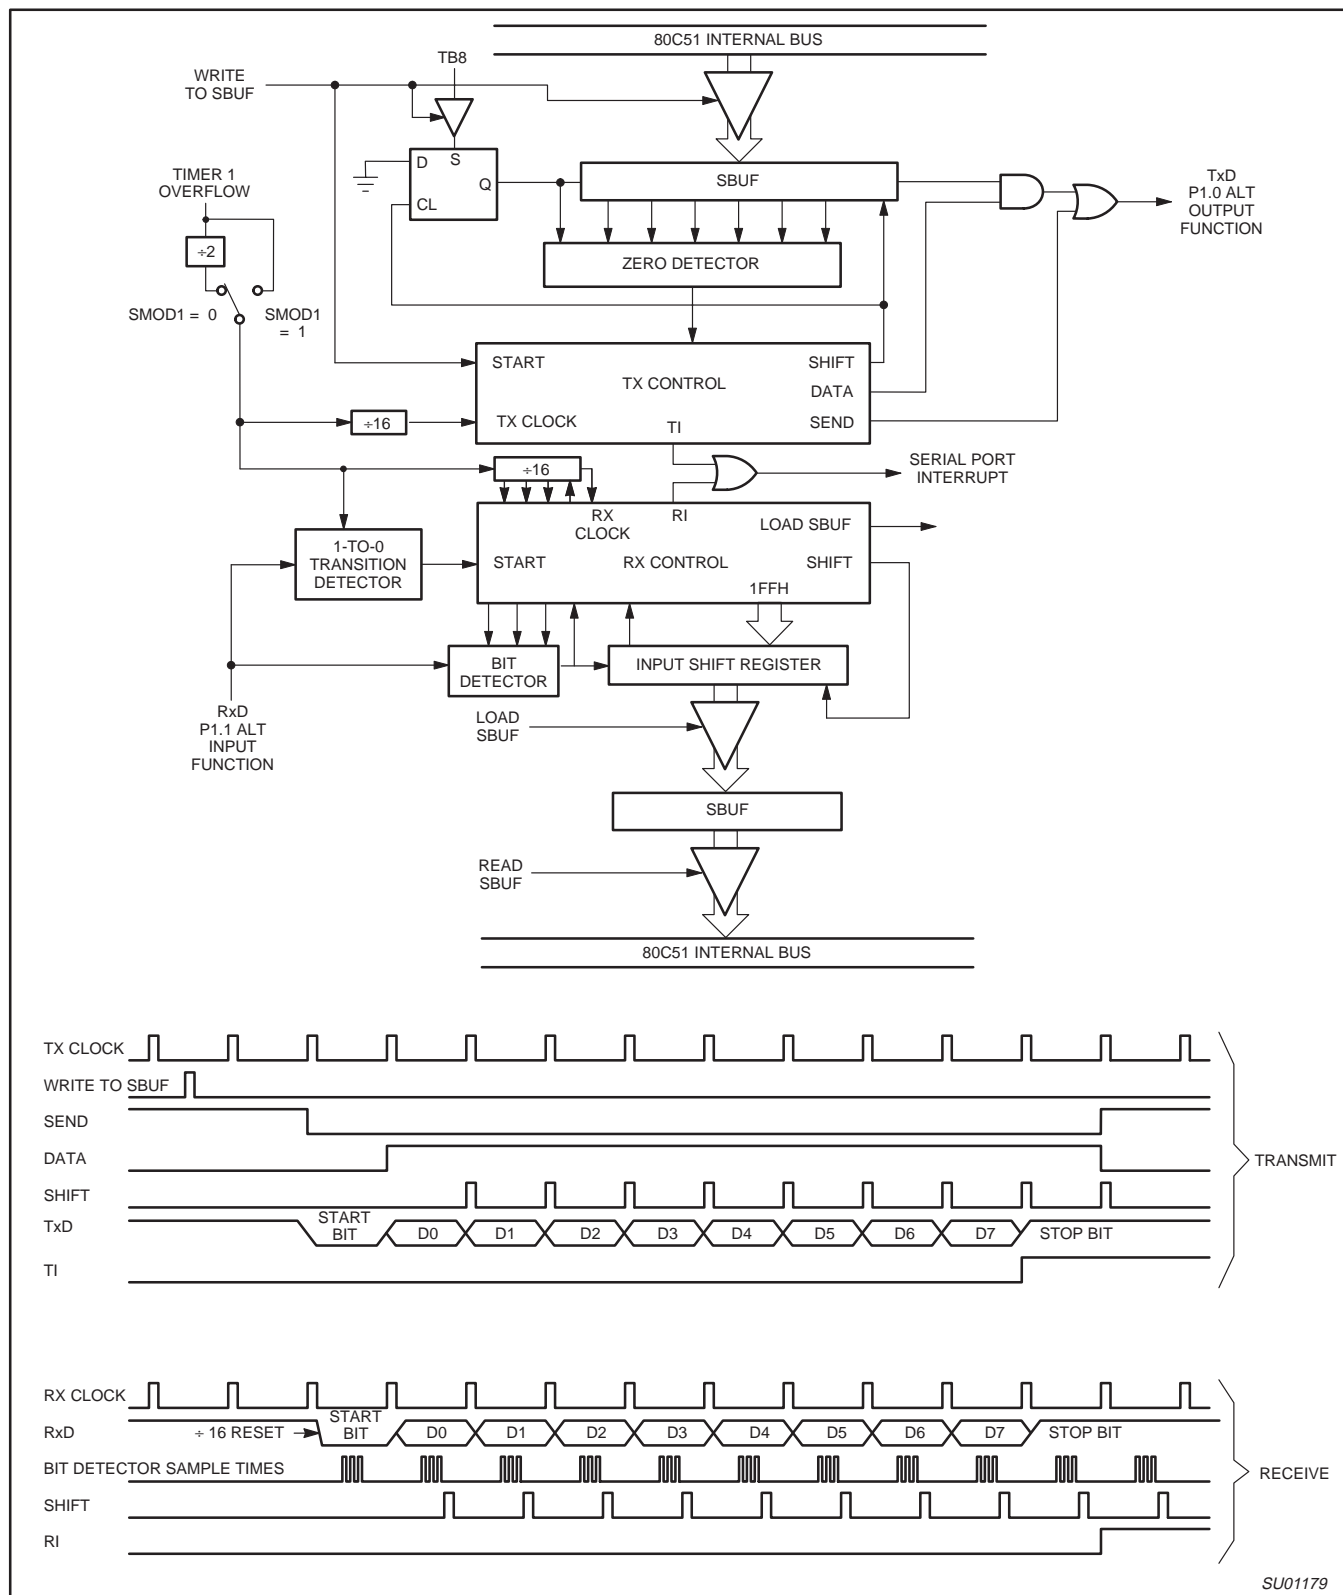

Figure 33. Serial Port Mode 1
Ten bits are transmitted (through TxD), or received (through RxD): a start bit (0), 8 data bits (LSB first), and a stop bit (1). On receive, the stop bit goes into RB8 in SCON. In the P87LPC761 the baud rate is determined by the Timer 1 overflow rate. Figure 33 shows a simplified functional diagram of the serial port in Mode 1, and associated timings for transmit receive.